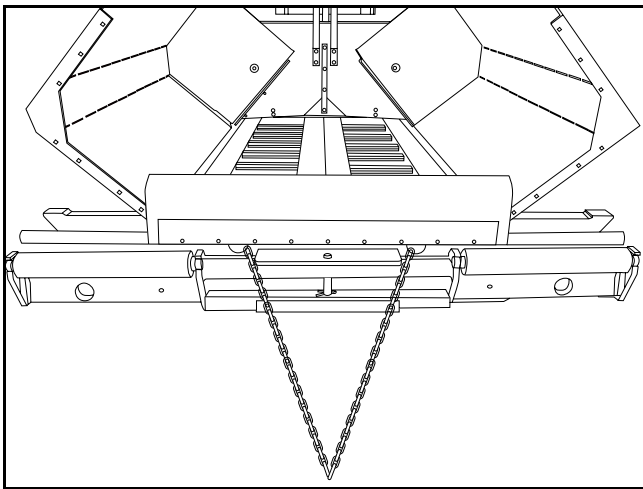

Figure 3 - 30 Attaching chain for towing
- 8) Run the chain through the holes shown. (Figure 3 - 30)